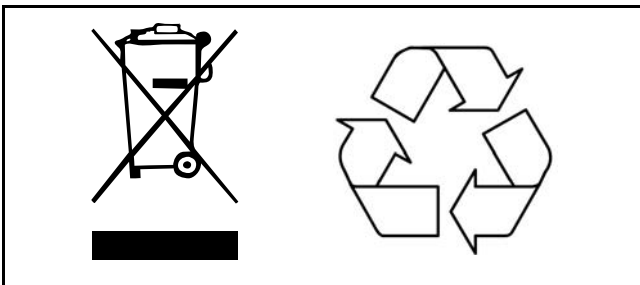

Fig. 3
- For recycling and disposal of the batteries and the lift, the rules according to the WEEE directive (Waste of Electronic and Electrical Equipment) as well as local laws and regulations must be followed. If not they may explode, leak and cause personal injury. When returning batteries, insulate their terminals with adhesive tape. Otherwise, the residual electricity in used batteries may cause fire or explosion. Fig. 3 below shows the symbols for disposal and recycling.